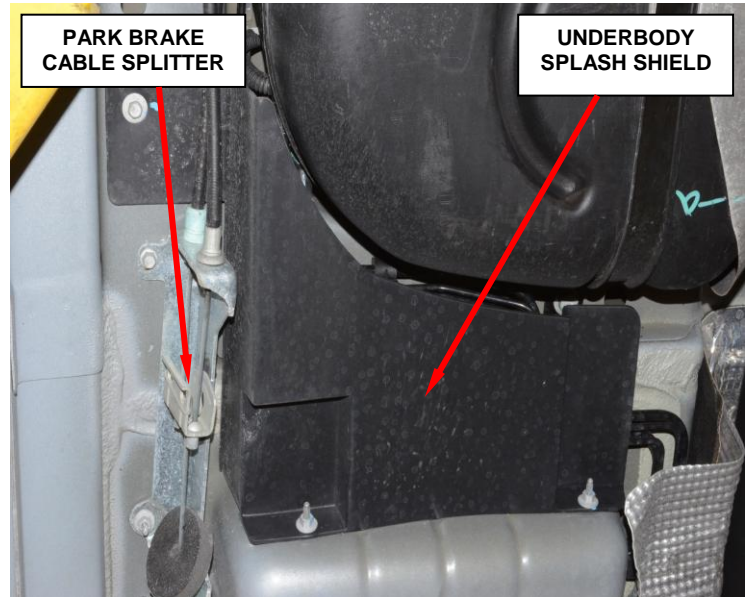

Figure 19 – Left Side Underbody Splash Shield
26. Remove and save the left side underbody plastic splash shield (Figure 19).
27. Disconnect the park brake cable retainers and park brake cable splitter (Figure 19).
51. Install the park brake splitter and park brake cable retainers (Figure 19).
52. Install the left side underbody plastic splash shield (Figure 19).